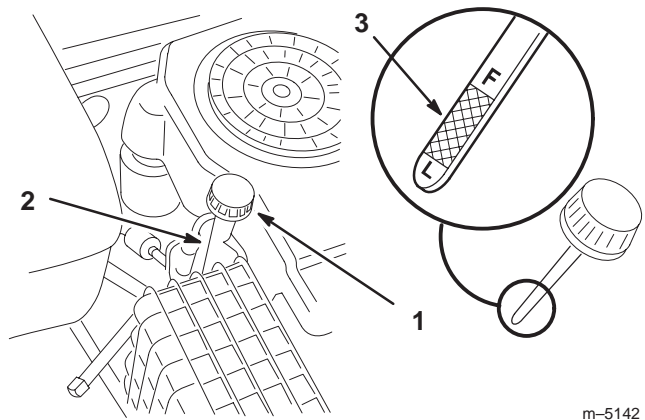

Figure 24
2. Clean around the oil dipstick (Fig. 24) so that dirt cannot fall into the filler hole and damage the engine.
3. Unscrew the oil dipstick and wipe the metal end clean (Fig. 24).
4. Slide the oil dipstick fully into the filler tube, but do not thread it onto the tube (Fig. 24). Pull the dipstick out and look at the metal end. If the oil level is low, slowly pour only enough oil into the filler tube to raise the level to, but not over, the “F” mark on the dipstick.
- Slowly pour approximately 80% of the specified amount of oil, page 24, into the filler tube (Fig. 24). Check the oil level; refer to Checking the Oil Level, page 24. Slowly add additional oil to bring the level to the "F" mark on the dipstick.